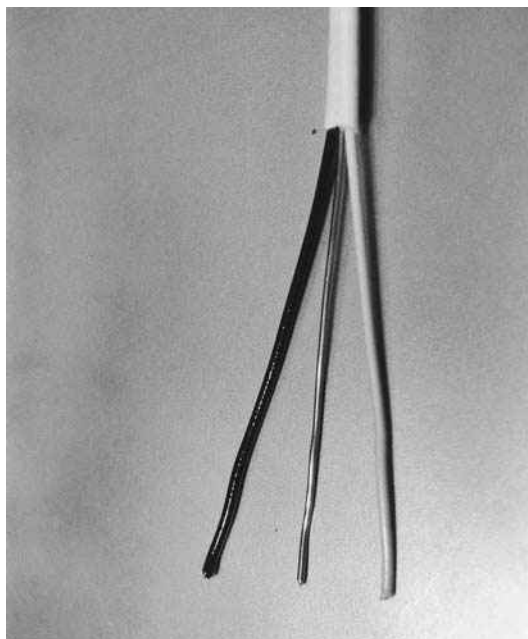
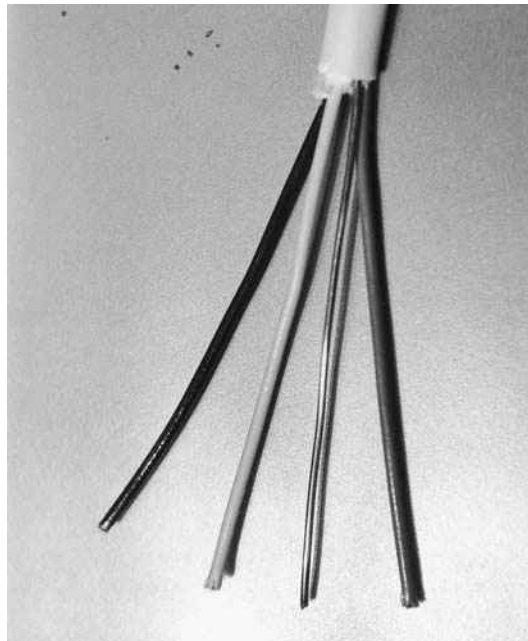

Figure 7-10 Two-conductor cables contain three wires: black, white, and bare copper.
Figure 7-11 Three-conductor cables contain four wires: black, white, red, and bare copper.
1. *Switch connections are made using two- and three-conductor cables.* Two-conductor cables actually contain three wires: black, white, and bare copper (Figure 7-10). The black and white wires are actual circuit conductors. The bare copper wire is not considered a circuit conductor because it is there to provide a low-resistance path to ground in the event of a grounded circuit. The bare copper wires connect together throughout the entire building and are connected to green grounding screws on switches and receptacle outlets. Three-conductor cables contain four wires: black, white, red, and bare copper (Figure 7-11). As with two-conductor cables, the bare copper wire is not considered a circuit conductor.